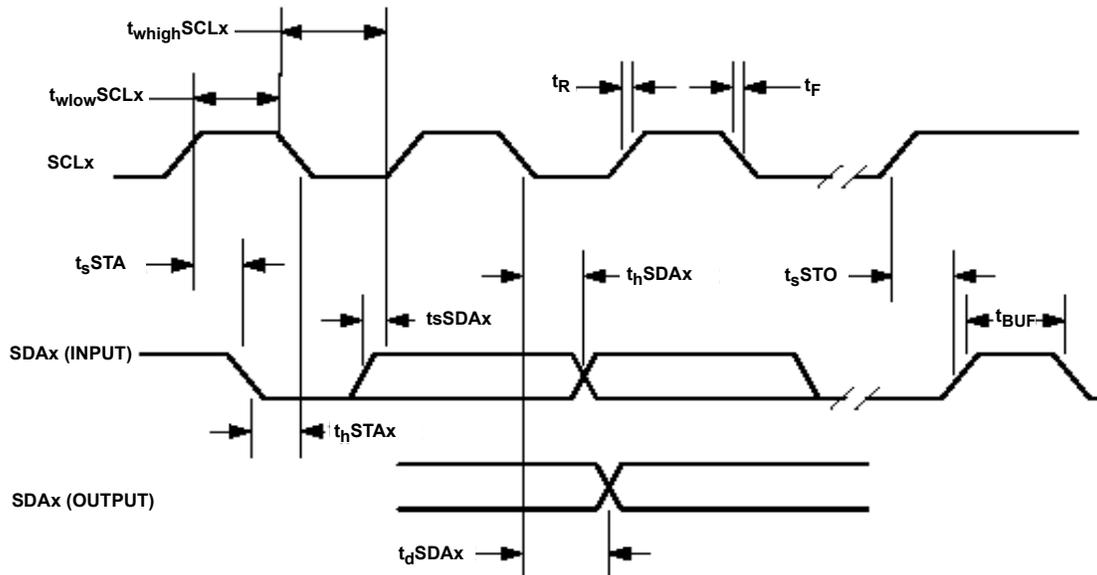

FIGURE 2. I2C INTERFACE TIMING
**Two-Wire (I2C) Interface Port Timing** (Figure 2)  $T_A = +25^\circ\text{C}$ ,  $CVDD = PLLVDD = 1.8\text{V} \pm 5\%$ ,  $RVDD = PWMVDD = 3.3\text{V} \pm 10\%$ . All grounds at 0.0V. All voltages referenced to ground.